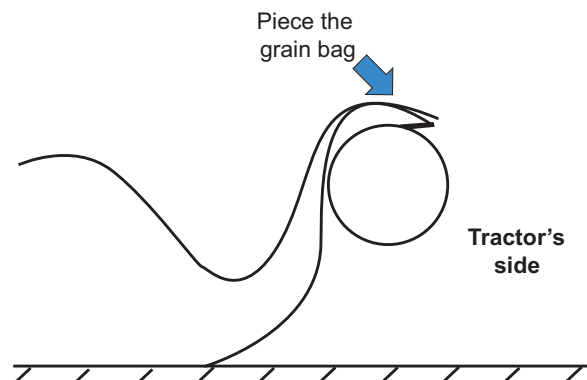

Figure 5.14 – Bag Perforation
3) Pierce both sides of the end of the grain bag with each of the roll teeth, as shown in figure 5.14.